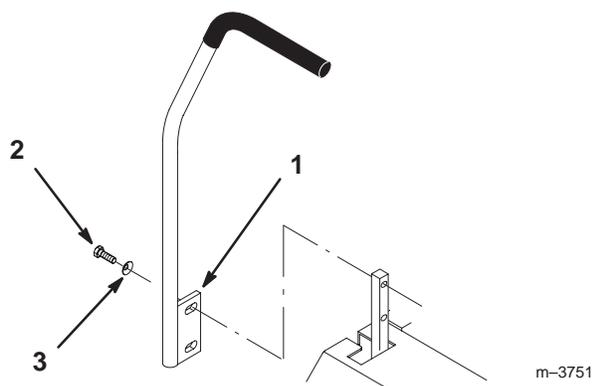

Figure 3
1. Remove the (4) 3/8–16 x 1” (26 mm) bolts and (4) 3/8” spring washers which attach the motion control levers to the control arm shafts for shipping (Fig. 3).
2. Place the levers (with the mounting plate toward the rear) on the outside of the control arm shaft and secure with (4) 3/8–16 x 1” (26 mm) bolts and (4) 3/8” spring washers (Fig. 3).
4. Align the front/rear position of the levers, with each other, in the neutral position. Loosen hardware and adjust by sliding/tilting the lever(s) forward or backward until properly aligned (Fig. 3).